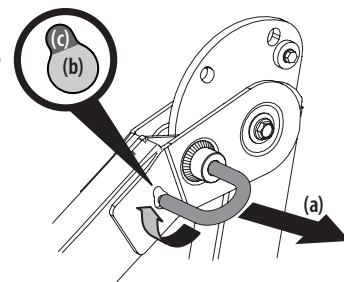

Figure 4
1. Pull slightly up on the ROPS to relieve any tension on the locking pin (a) and rotate the locking pin (a) from the LOCKED (b) position into the ADJUSTMENT (c) position. Repeat the procedure for the locking pin on the opposite side. See Figure 4.